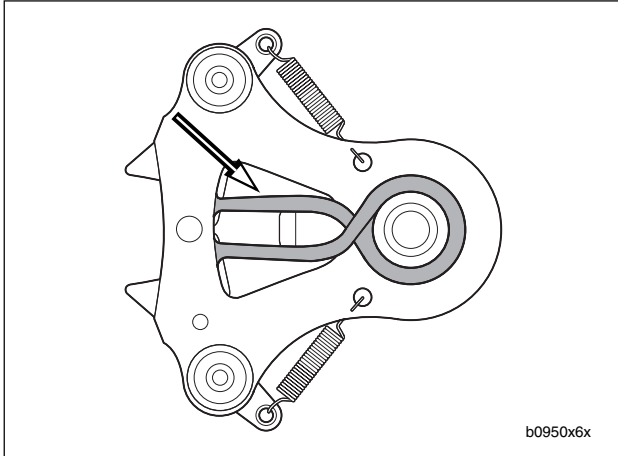

**Figure 6-87. Crankcase Halves**
4. See Figure 6-87. Assemble crankcase halves together.